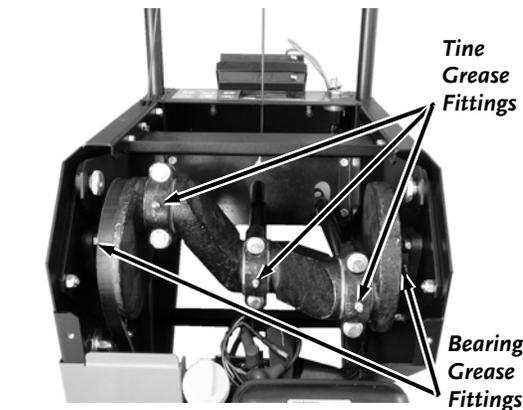

Figure 18
2. Grease the three Tine Bearing Fittings (every 10 hours) and Crankshaft Bearing Fittings (every 100 hours) using the Grease Gun (**Figure 18**).